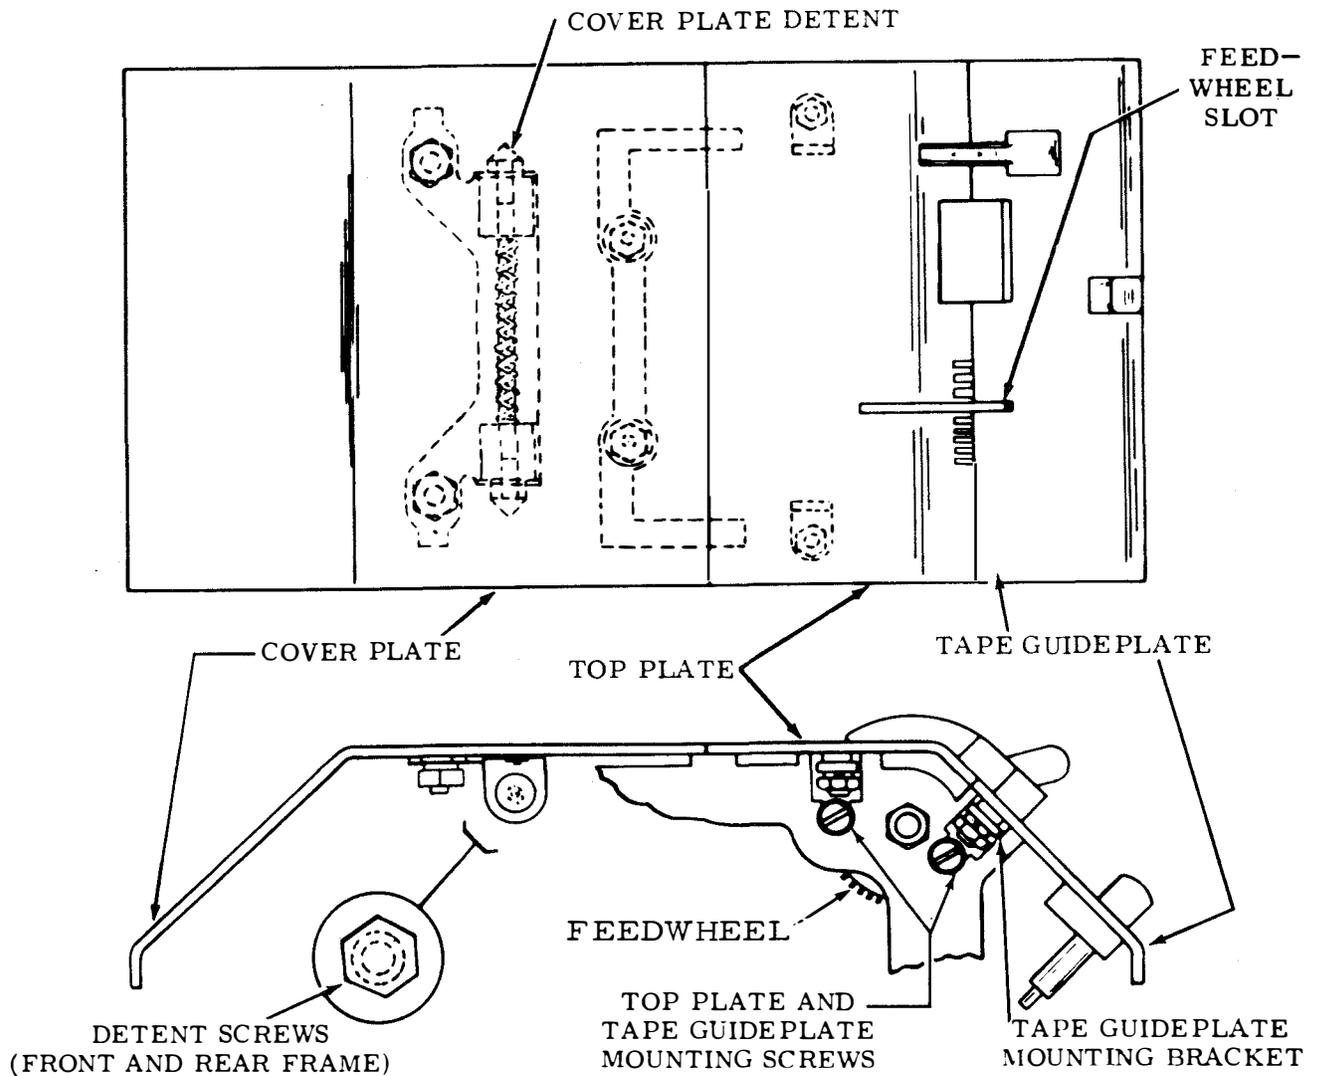

Figure 4-1. Transmitter Distributor Plate Removal Details
(4) Apply MIL-L-17672 oil to all pivot points.
(5) Apply MIL-L-17672 oil to all sliding surfaces.
f. To obtain access to lubrication points refer to figure 4-1 and observe the following instructions.
(1) Removing Cover Plate: lift left end of plate to release the detent fasteners; then slide cover plate toward the left. Replace cover in the reverse order.
(2) Removing Top Plate: loosen the front and